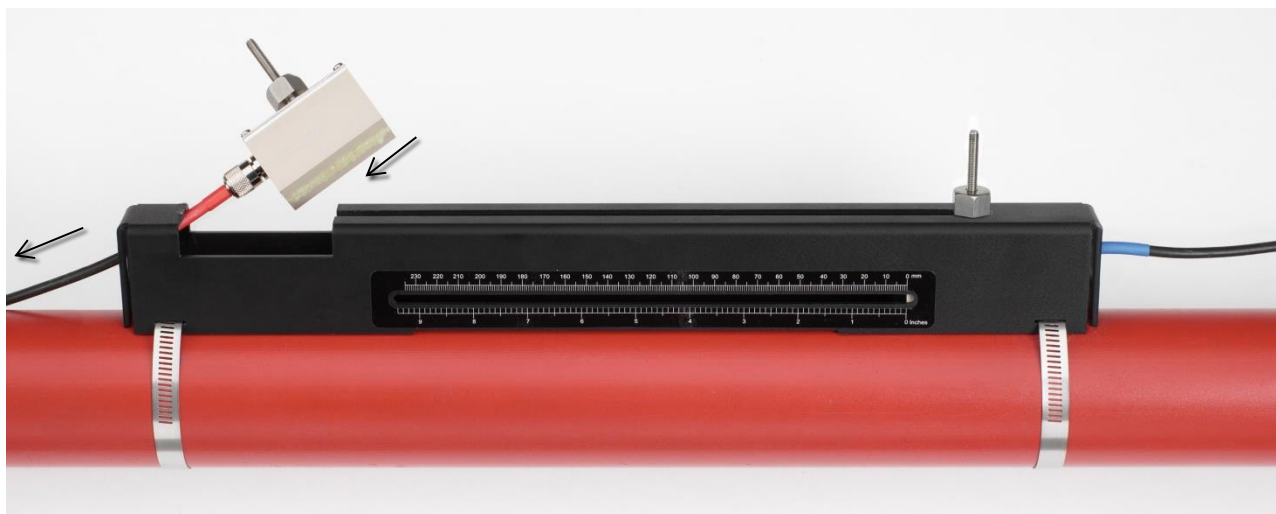

Figure 15 Installing upstream transducer (red)
7. Thread the upstream signal cable (red) through the left-hand end of the mounting rail and connect it to the second transducer (Figure 15).